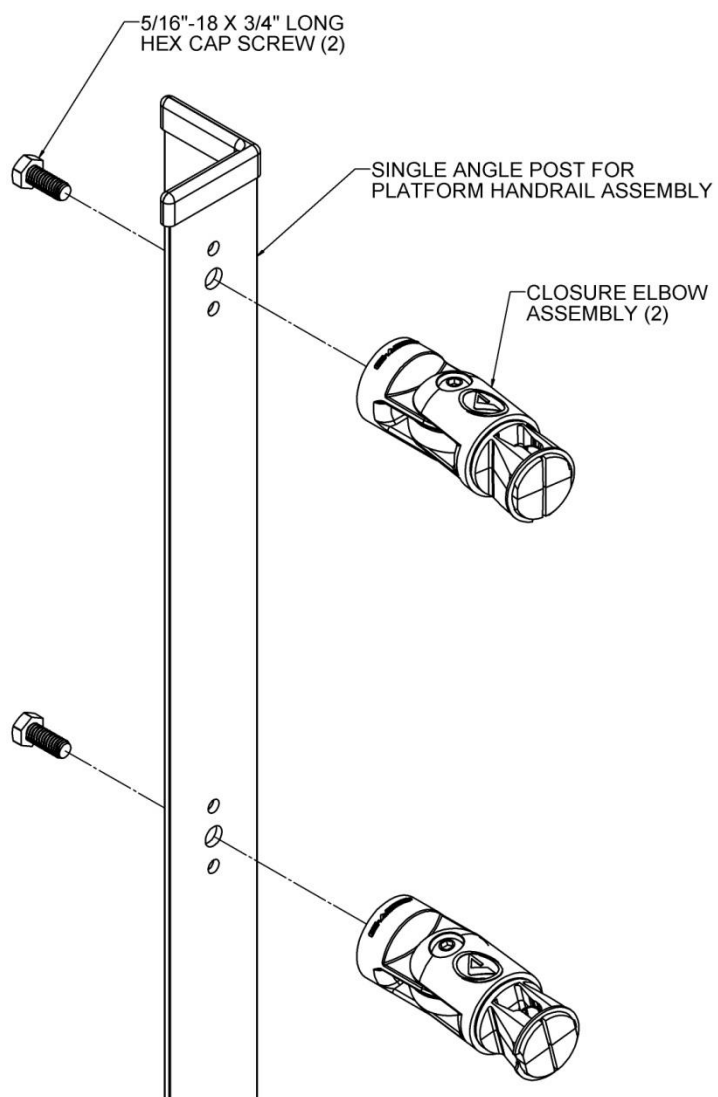

FIG. 6.8
- 6.2.3. Using a handrail closure elbow, pass a 5/16"-18 x 3/4" hex cap screw through each of the two larger holes in upper portion of the angle post into the threaded end of closure elbow, then tighten lightly (FIG. 6.8).